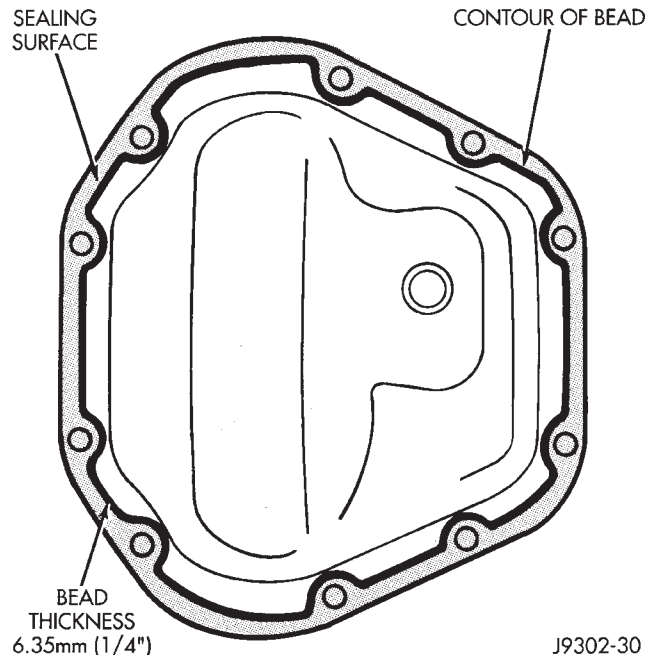

Fig. 54 Typical Housing Cover With Sealant
(1) Scrape the residual sealant from the housing and cover mating surfaces. Clean the mating surfaces with mineral spirits. Apply a bead of Mopar® Silicone Rubber Sealant, or equivalent, on the housing cover (Fig. 54).